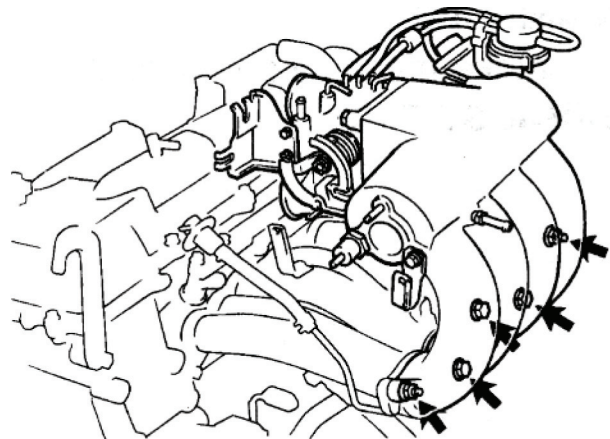

Figure 8
21. Remove the 3 bolts and 2 nuts shown in Figure 8.